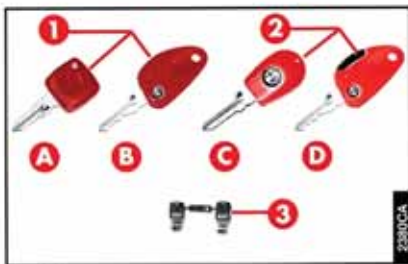

fig. 2
The car is supplied with two types of keys (fig. 2). The key (1) with the Bordeaux grip is the "master" key. Only one is supplied and depending on the trim level, it may be as follows:
The CODE card (fig. 3) is also supplied with the keys and for cars fitted with alarm system also two copies of the emergency key (3-fig. 2); for use of these, refer to "Electronic alarm".
If the batteries in the remote control device transmitter are flat or if a fault affecting the electronic alarm is detected the system can be cut off using the emergency key (**3-fig. 2**) supplied with the car keys.